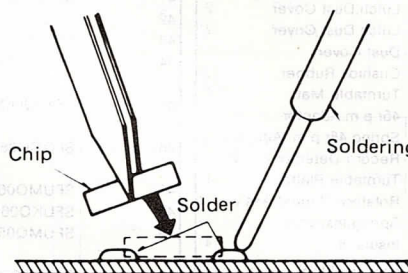

Fig. 25
1. Place solder on the foil where the chip is fitted. Then solder the chip by holding the soldering iron as shown in Fig. 25.